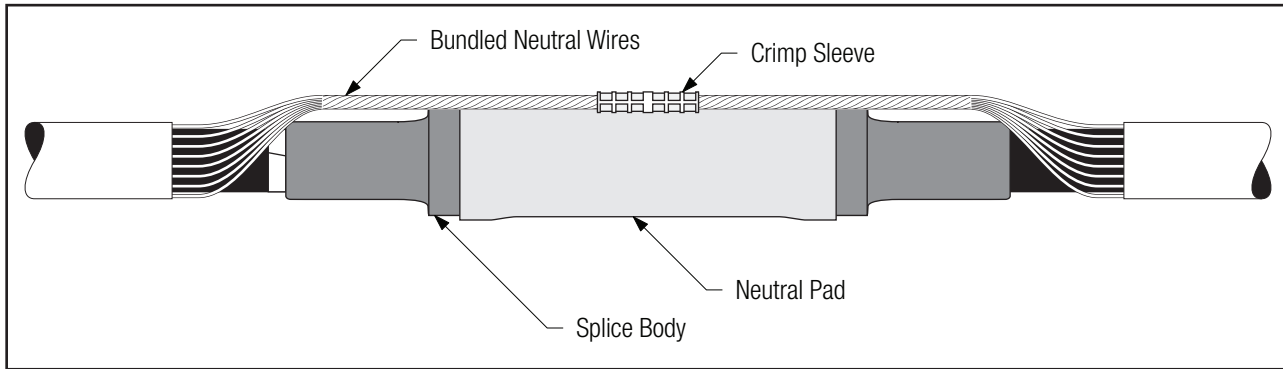

Figure 17
- 5.1.1 Center neutral pad on splice body. Remove temporary vinyl tape from neutral wires and connect with an inline compression connector (crimp sleeve). Route neutrals and connector over the neutral pad (Figure 17).